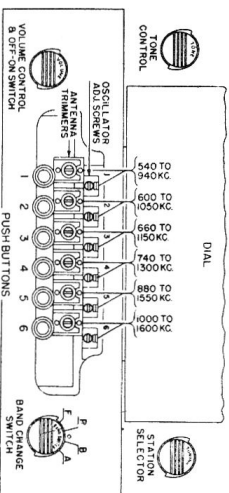

Fig. 1
2. Tighten all the "ANT" Padder screws just moderately tight. See Fig. 1.
4. It is essential that the stations selected are well within the range designated for that button. See Fig. 1.